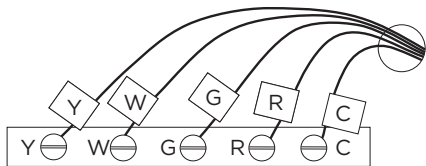

Figure 2: Labeling Existing Wires
3. Label the wires according to their terminal markings as shown in Figure 2. Connections may differ from the example shown. Keep in mind that color alone is not a reliable indicator of wire purpose.